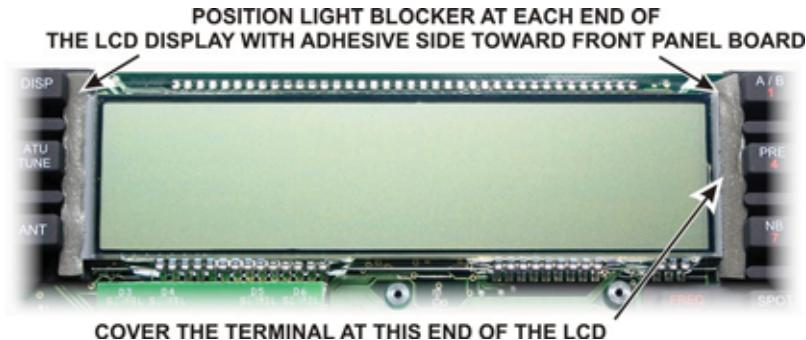

Figure 38. Installing LCD Light Blocker.
- Install the two soft foam light blockers at the ends of the LCD display as shown in Figure 38. Remove the paper strip covering the adhesive on each blocker and stick that side against the board (or the lip at the base of the switch buttons) so it stands up between the switches and the LCD. Cover the terminals at the right hand end of the LCD as shown. The blockers should be nearly flush with the front edge of the LCD to block the excess light that leaks out of each end of the display.